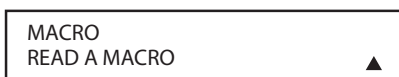

Figure 147.
3. At the next menu screen (**Figure 147**), press the **Navigation Button**  until the bottom line in the remote's LCD shows **READ A MACRO**. Press the **Set Button**  to begin the process of reading a macro.